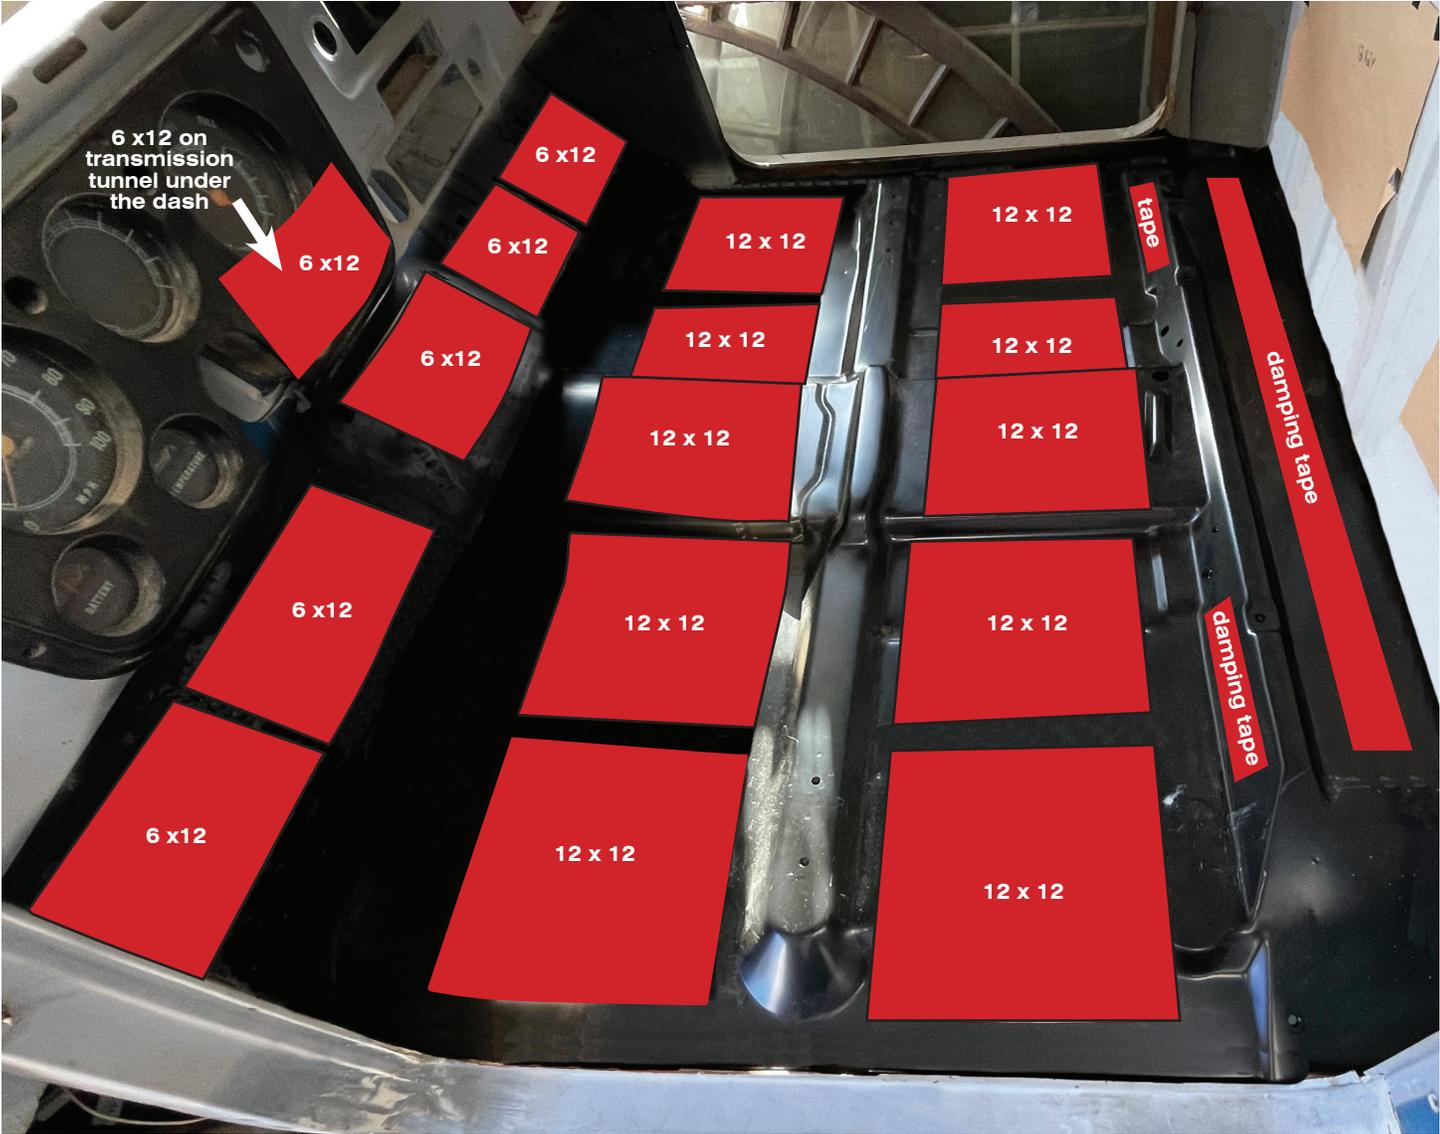
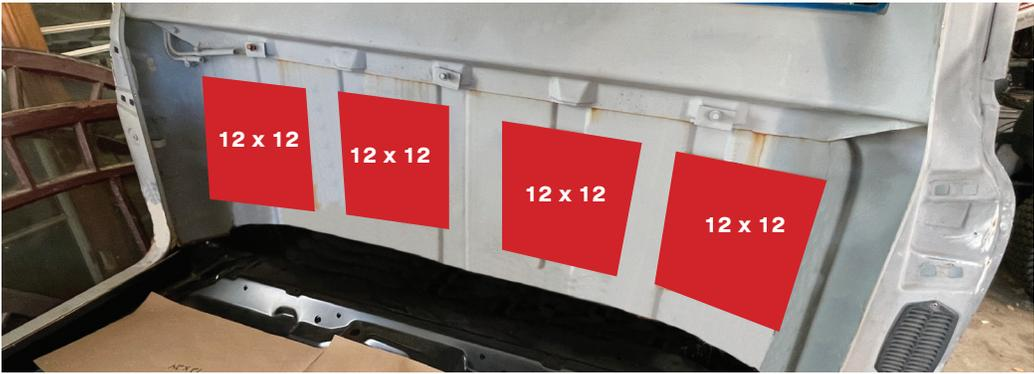

FIG. 2
FIG. 3 Rear Bulkhead
STEP 1. Using Figure 2 & Figure 3 as a guide, layout the pieces of Boom Mat Damping Material in those locations.